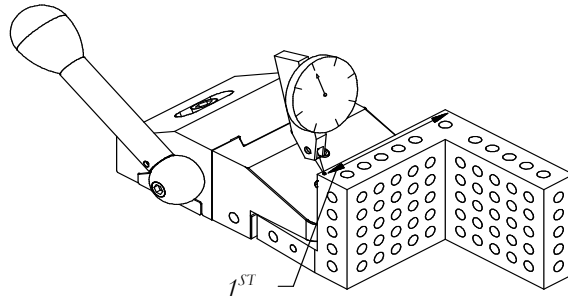

Figure 2
Attach the AP01/TD01 to a truing station as shown in Fig. 2.
STEP 3. (A). Loosen the two clamp screws on the TD01 1/4 turn. **(B).** Place the indicator ball on the corner of the AP01 as shown in Fig. 2. **(C).** Zero the indicator. **(D).** Move the indicator ball to the other end of the AP01 surface. **(E).** Turn the #1 jackscrew on the TD01 until the indicator returns back to the zero set. The first-axis is trued.